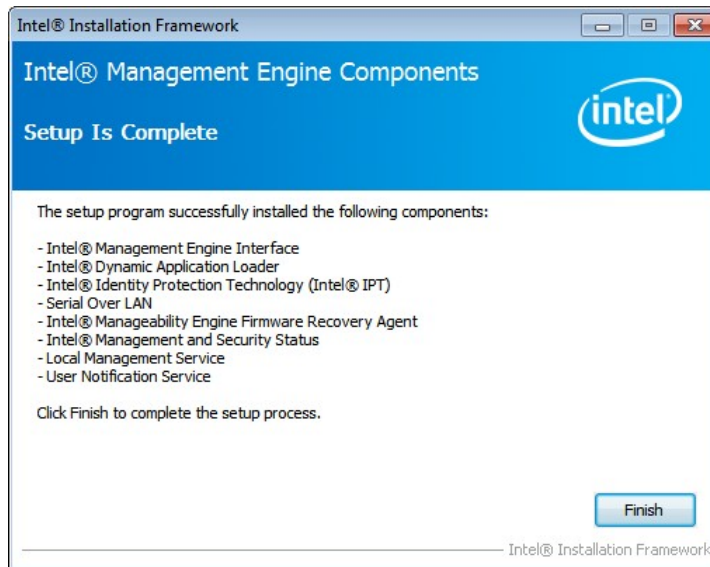

Figure 6-30: Intel® ME Driver Installation Finish Screen
Step 11: The **Finish** screen in **Figure 6-30** appears.